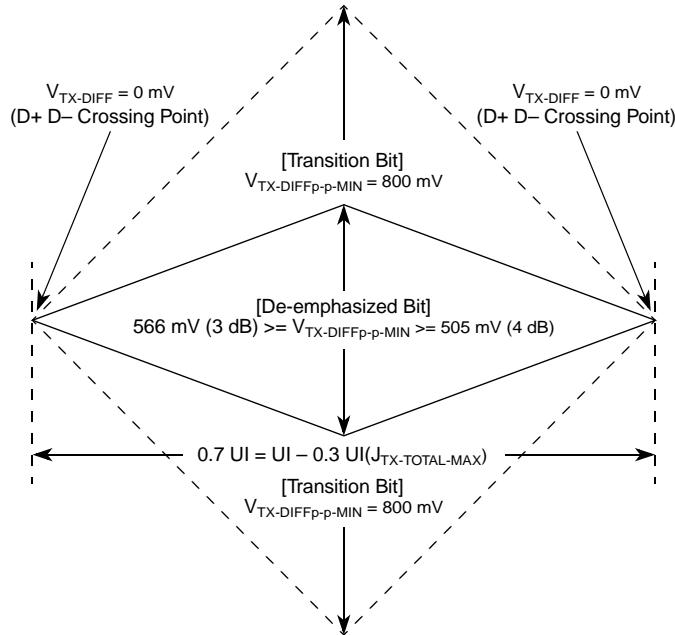
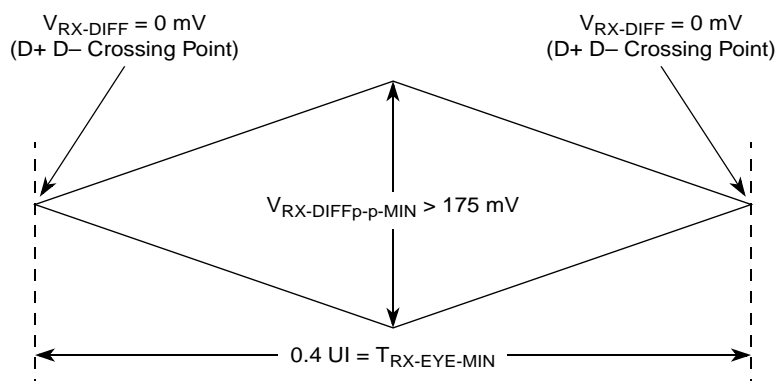
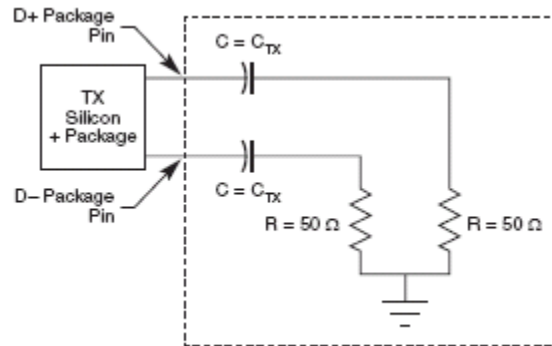

Figure 49. Minimum Transmitter Timing and Voltage Output Compliance Specifications
Figure 50. Minimum Receiver Eye Timing and Voltage Compliance Specification
Figure 51. Compliance Test/Measurement Load
2. Specified at the measurement point into a timing and voltage compliance test load as shown in Figure 51 and measured over any 250 consecutive TX UIs. (Also refer to the transmitter compliance eye diagram shown in Figure 49.)
4. The transmitter input impedance shall result in a differential return loss greater than or equal to 12 dB and a common mode return loss greater than or equal to 6 dB over a frequency range of 50 MHz to 1.25 GHz. This input impedance requirement applies to all valid input levels. The reference impedance for return loss measurements is 50  $\Omega$  to ground for both the D+ and D- line (that is, as measured by a vector network analyzer with 50- $\Omega$  probes, see Figure 51). Note that the series capacitors,  $C_{TX}$ , is optional for the return loss measurement.
5. Measured between 20%–80% at transmitter package pins into a test load as shown in Figure 51 for both  $V_{TX-D+}$  and  $V_{TX-D-}$ .
The TX eye diagram in Figure 49 is specified using the passive compliance/test measurement load (see Figure 51) in place of any real PCI Express interconnect + RX component. There are two eye diagrams that must be met for the transmitter. Both diagrams must be aligned in time using the jitter median to locate the center of the eye diagram. The different eye diagrams differ in voltage depending on whether it is a transition bit or a de-emphasized bit. The exact reduced voltage level of the de-emphasized bit is always relative to the transition bit.
- Specified at the measurement point and measured over any 250 consecutive UIs. The test load in Figure 51 should be used as the RX device when taking measurements (also refer to the receiver compliance eye diagram shown in Figure 50). If the clocks to the RX and TX are not derived from the same reference clock, the TX UI recovered from 3500 consecutive UI must be used as a reference for the eye diagram.
- The receiver input impedance shall result in a differential return loss greater than or equal to 15 dB with the D+ line biased to 300 mV and the D- line biased to -300 mV and a common mode return loss greater than or equal to 6 dB (no bias required) over a frequency range of 50 MHz to 1.25 GHz. This input impedance requirement applies to all valid input levels. The reference impedance for return loss measurements for is  $50 \Omega$  to ground for both the D+ and D- line (that is, as measured by a vector network analyzer with  $50\text{-}\Omega$  probes, see Figure 51). Note that the series capacitors,  $C_{TX}$ , is optional for the return loss measurement.
The RX eye diagram in Figure 50 is specified using the passive compliance/test measurement load (see Figure 51) in place of any real PCI Express RX component. In general, the minimum receiver eye diagram measured with the compliance/test measurement load (see Figure 51) is larger than the minimum receiver eye diagram measured over a range of systems at the input receiver of any real PCI Express component. The degraded eye diagram at the input Receiver is due to traces internal to the package as well as silicon parasitic characteristics which cause the real PCI Express component to vary in impedance from the compliance/test measurement load. The input receiver eye diagram is implementation specific and is not specified. RX component designer should provide additional margin to adequately compensate for the degraded minimum Receiver eye diagram (shown in Figure 50) expected at the input receiver based on an adequate combination of system simulations and the return loss measured looking into the RX package and silicon. The RX eye diagram must be aligned in time using the jitter median to locate the center of the eye diagram.
The reference impedance for return loss measurements is  $50\ \Omega$  to ground for both the D+ and D- line (that is, as measured by a Vector Network Analyzer with  $50\ \Omega$  probes—see Figure 51). Note that the series capacitors,  $C_{PEACCTX}$ , are optional for the return loss measurement.
The AC timing and voltage parameters must be verified at the measurement point, as specified within 0.2 inches of the package pins, into a test/measurement load shown in Figure 51.